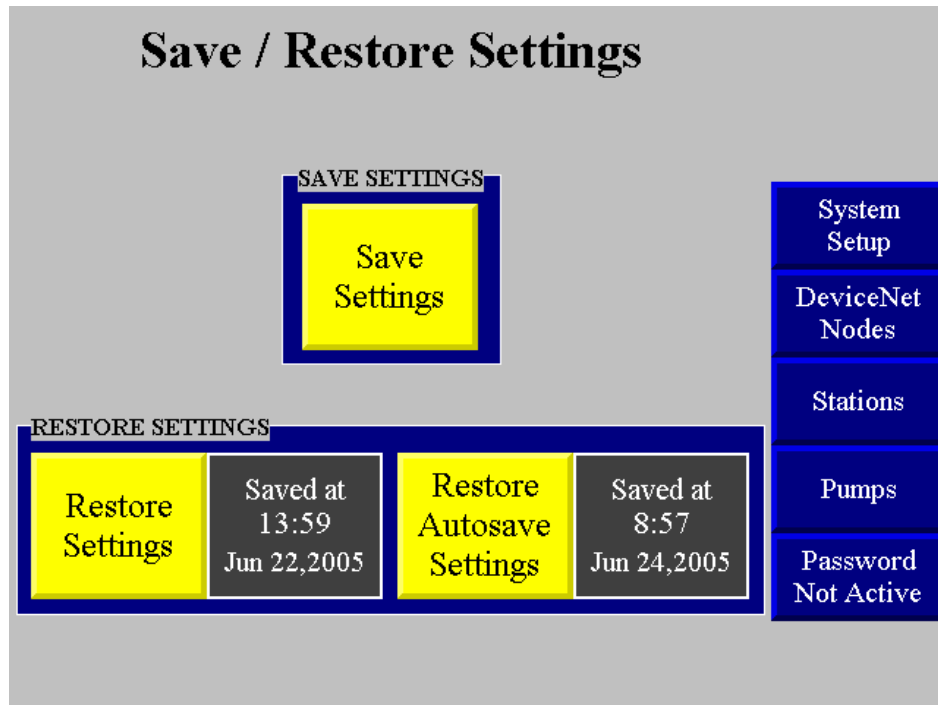

Fig 7
- Go to the **Save / Restore** Screen (*Fig 7*) by pressing the Save / Restore button on the right side of the screen.